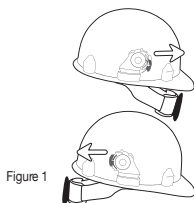

Figure 1
1. Hard hat can be worn with the brim forward or backwards. Insert blades into the cap slots with the button always facing the back of the suspension. (Figure 1)